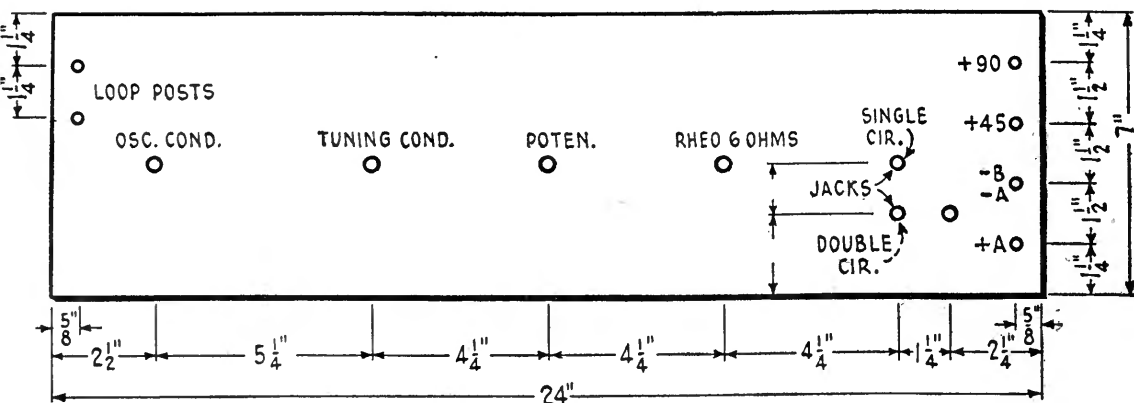

FIG. 6
**I**N THE panel layout in Fig. 6 only the center or shaft holes of the various instruments are indicated, as the holes for the mounting screws will vary with different makes of apparatus.